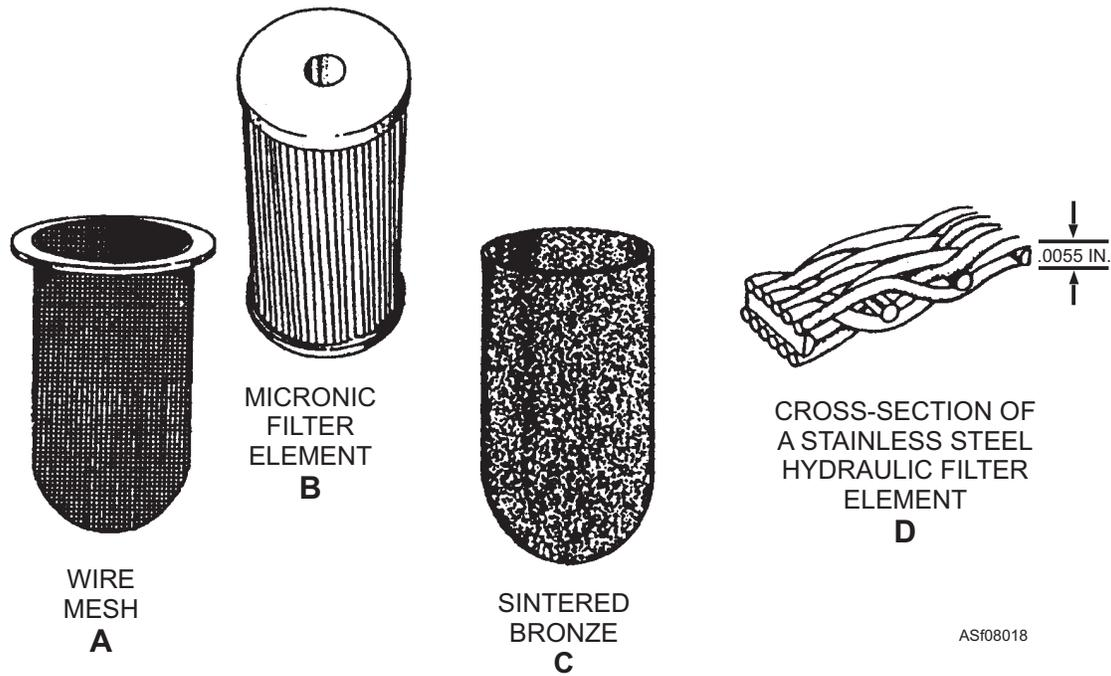

Figure 8-18.—Different types of hydraulic filter elements.
filtration is referred to as the filter element. Figure 8-18 shows some typical filter elements.
**MICRONIC-TYPE FILTER ELEMENTS.**—*Micronic*, a term derived from the word micron, can be used to describe any filter element. Through usage, micronic has become associated with a specific filter with a filtering element made of a specially treated cellulose paper. The paper is formed in vertical convolutions (wrinkles) and is made in a cylindrical pattern. A spring in the hollow core of the element holds the element in shape (view B of fig. 8-18).
**WIRE MESH FILTER ELEMENTS.**—A wire mesh filter element is made of a fine wire mesh (screen) and is usually used where the fluid enters and/or leaves a container or component (view A of figure 8-18). The size of wire mesh openings vary with the particular filter element, but normally a wire mesh filter element removes only the larger particles of contamination from the fluid.